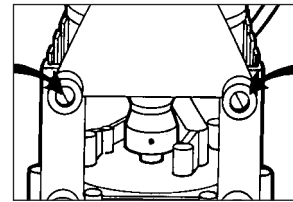

Figure 22
Step 1: Stand pump on oil cover. If pump has foot mounting bracket, remove unit by loosening foot screws (**Figure 22**).